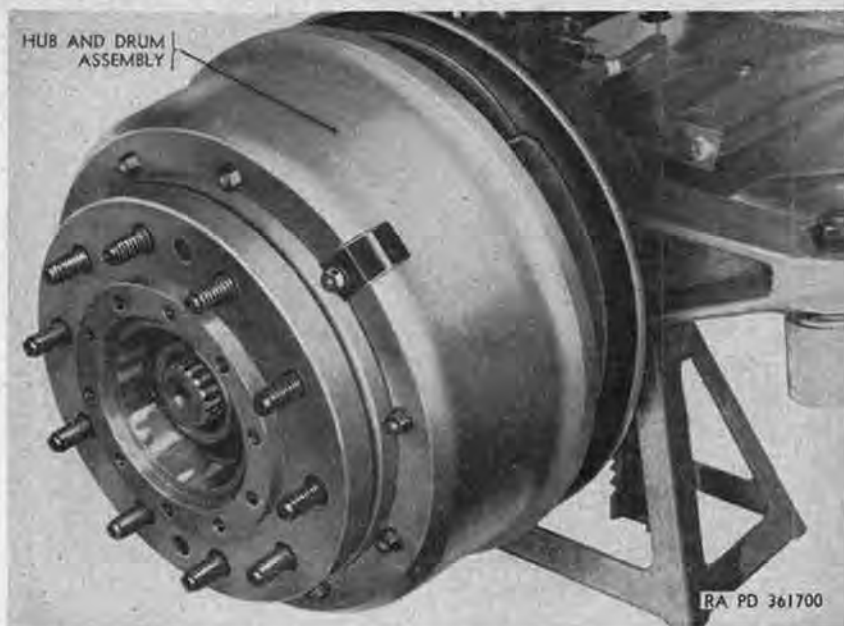

Figure 259. Removing hub and drum assembly.
- (f) Remove hub and drum assembly (fig. 259) from axle spindle.
- (g) Remove 10 nuts (fig. 259) and lockwashers securing brake drum to hub, pry drum loose, and remove drum from hub.
- (2) *Installation.*
- (a) Position brake drum on studs at hub outer flange, and install 10 lockwashers (fig. 259) and nuts on studs. Tighten nuts.
- (b) Install hub and drum assembly (fig. 259) on axle spindle so that inner tapered-roller-bearing cone (H, fig. 257) and inner-bearing oil seal (F, fig. 257) enter hub inner bore.